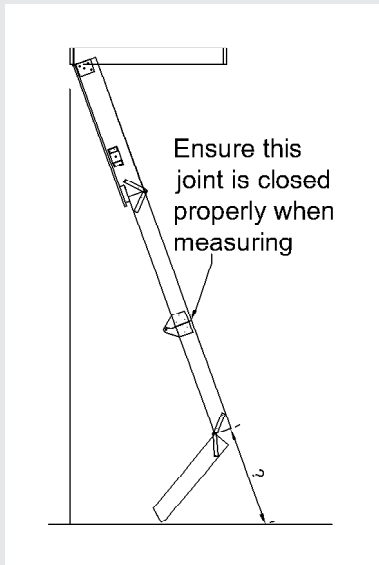

fig 17
11. With the top and middle sections of the stair open and the bottom section tucked in behind, measure the distance from the bottom of the middle section, to the floor at the same angle as the stairs (figure 17). Do this on both sides.